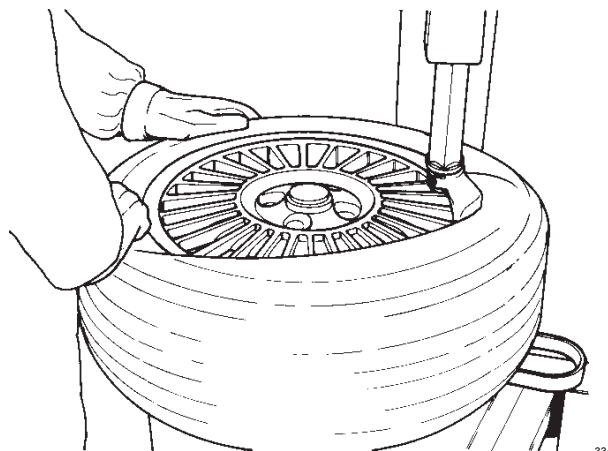

Fig. 4-6
G. Rotate the turntable clockwise (pedal down) and, at the same time, push down on the tire sidewall to move the bead into the drop center of the rim (Fig. 4-6).